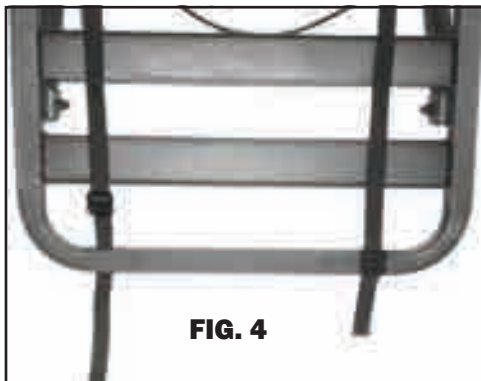

FIG. 4
3. Insert the loose end of the strap through the front of the platform. **(See Fig. 4)**